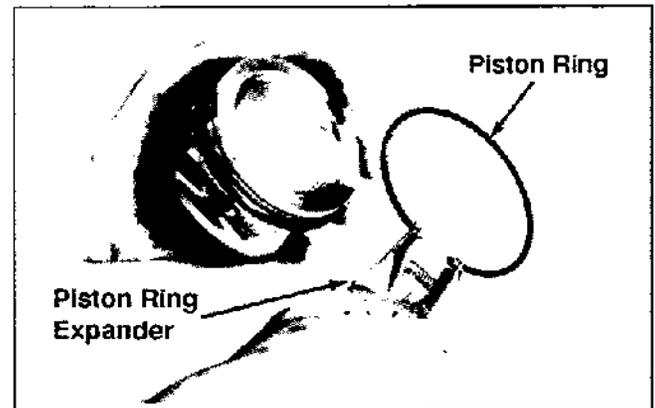

Figure 9-43. Removing Piston Rings.
1. Remove the top and center compression rings using a ring expander tool. See Figure 9-43.